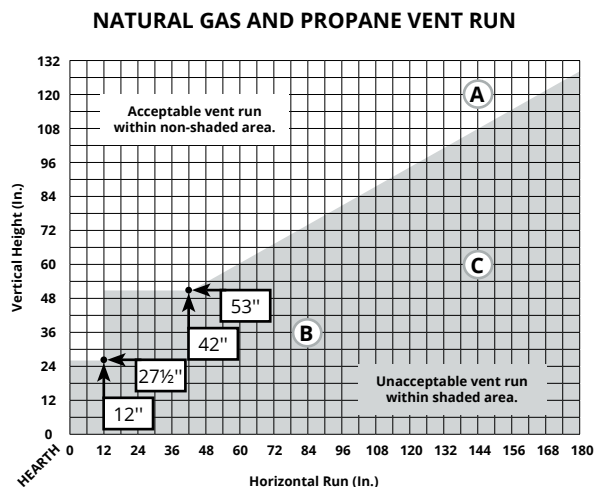

Figure 11. PL42DF* Rear Vent Venting Graph for NG and propane wall mounted terminations.
Measure the vertical height from the fireplace hearth to the centre of the termination and the horizontal run from the fireplace flue collar to the wall flange of the termination. Plot on the Venting Graph Figure 11 or 11.b with an 'X'.
- Venting runs must fall within the limits set by the venting graphs, see Figure 11 or 11.b
Figure 11.b Straight run, Rear Vented, wall mounted termination. The vent run must comply with the Venting Graph for Rear vent, wall mounted terminations, Figure 11. NOTE: Straight through the wall rear vent available for **Natural Gas** only.
Figure 11.c Rear Vented, wall mounted Multi-elbow termination installation. The vent run must comply with the Venting Graph for Rear vent, wall mounted terminations, Figure 11.b